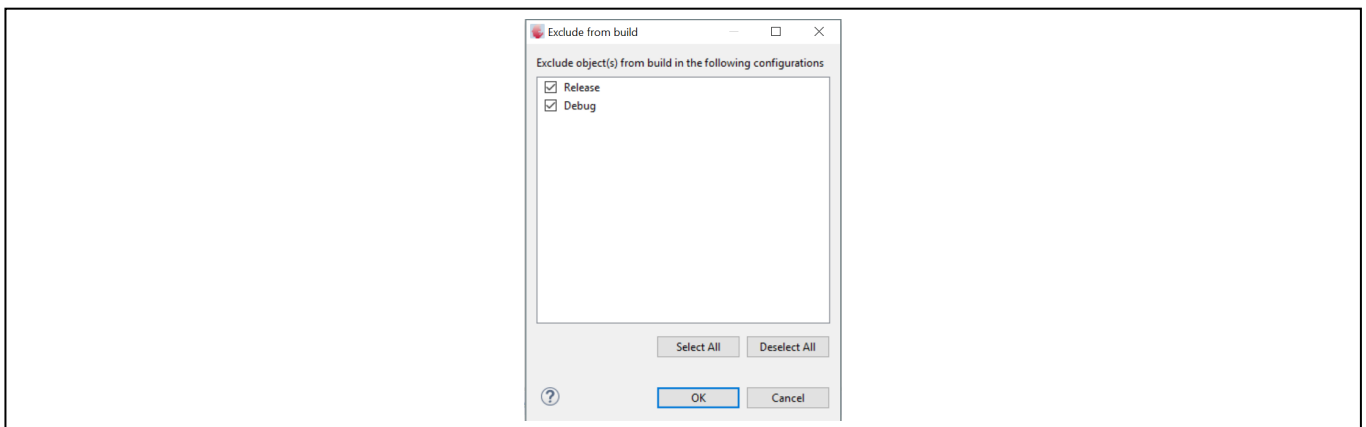

Figure 17 Excluding a Directory from Build
- Select both “Release” and “Debug” as shown in figure 17.